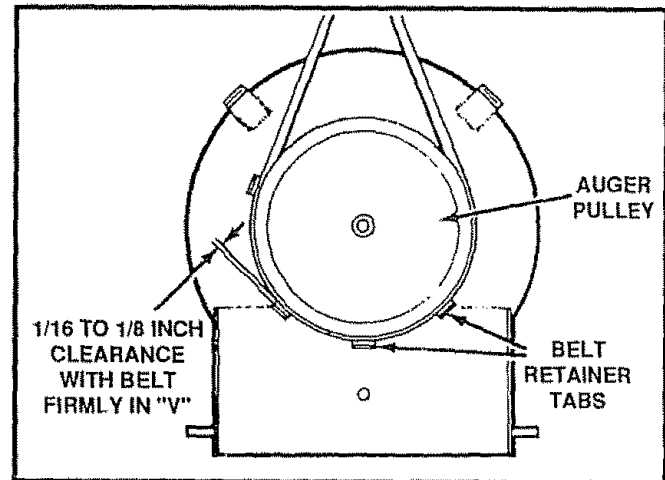

FIG. 31
- Bend the belt retainer tabs (See Fig. 31) away from the auger pulley.